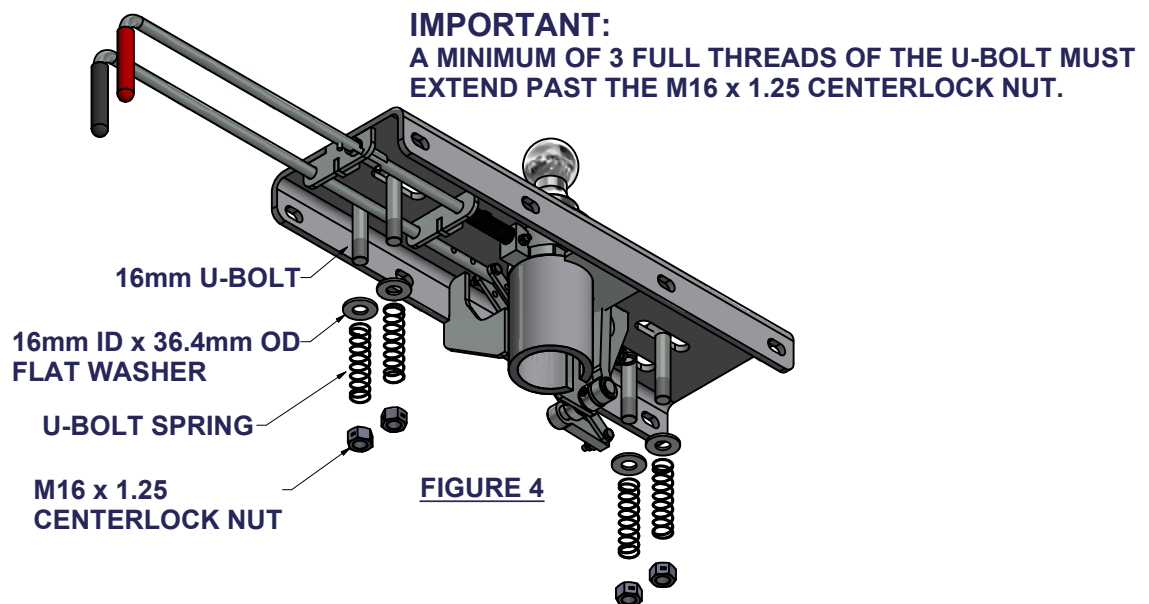

FIGURE 4
3) **SEE FIGURE 4 FOR CORRECT INSTALLATION OF THE SAFETY CHAIN U-BOLTS AND THEIR HARDWARE.**